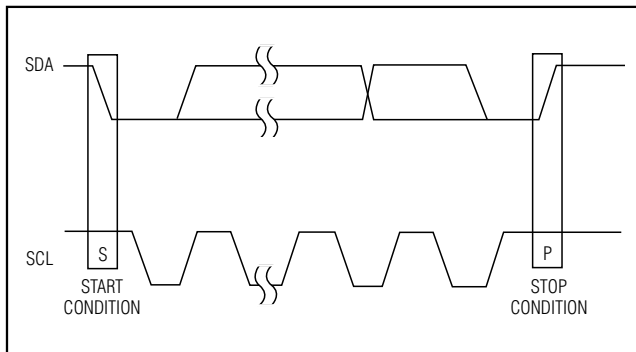

Figure 6. Start and Stop Conditions
Each transmission consists of a START condition sent by a master, followed by the MAX6618 7-bit slave address, plus an R/W bit, one or more data bytes, and finally a STOP condition (Figure 6). To write to a MAX6618 register, a write transmission consists of a START condition, followed by the MAX6618 7-bit slave address plus R/W = 0, a register address byte, one data byte, and finally a STOP condition. To read from a MAX6618 register, a combined write and read transmissions are required. The first write transmission consists of a START condition, followed by the MAX6618 7-bit slave address plus R/W = 0, a register address byte, and finally a STOP condition that sets the register to be read. The second read transmission consists of a START condition, followed by the MAX6618 7-bit slave address plus R/W = 1, one or more data bytes, and
Both SCL and SDA remain high when the interface is not busy. A master signals the beginning of a transmission with a START (S) condition by transitioning SDA from high to low while SCL is high. When the master has finished communicating with the slave, it issues a STOP (P) condition by transitioning SDA from low to high while SCL is high. The bus is then free for another transmission (Figure 6).